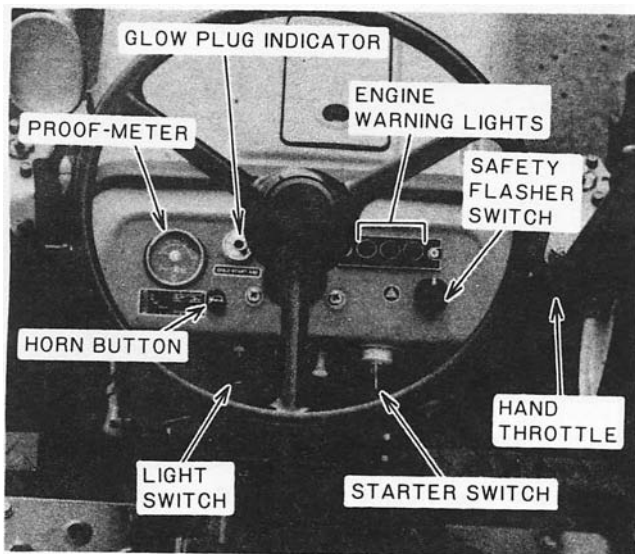

Figure 4 – Instrument Panel
The light switch, shown in Figure 4, is a push-pull type switch. Its positions are:
The starter switch is shown in Figure 4. Turning the key to the left will activate the cold-start aid. Turn-
The engine temperature, oil pressure and charge indicator warning lights are located as shown in Figure 4. When the starter switch is turned "on" the oil pressure and charge lights come on. After the engine has been started, the lights should go out within a few seconds. If they do not go out:
The Proof-Meter is located on the left side of the instrument panel, Figure 4. The Proof-Meter indicates:
- Engine revolutions per minute are indicated on a scale as shown in Figure 4. Use the engine revolutions per minute scale when operating PTO-driven equipment. PTO-driven equipment must be operated at an engine speed not to exceed 2605 rpm as shown by the yellow line on the rpm scale. Additional information on PTO operation can be found on page 12. Ground speeds are indicated on a decal attached to the instrument panel. The decal shows ground speeds for 3rd, 5th, 7th, 10th and R¹ gears, with engine speeds from 1350-2700 rpm. Additional ground speed information can be found on page 41.
The hand throttle is shown in Figure 4. Push the throttle forward to increase engine rpm. Pull the throttle rearward to decrease engine rpm. Pull the throttle full rearward to stop the engine.